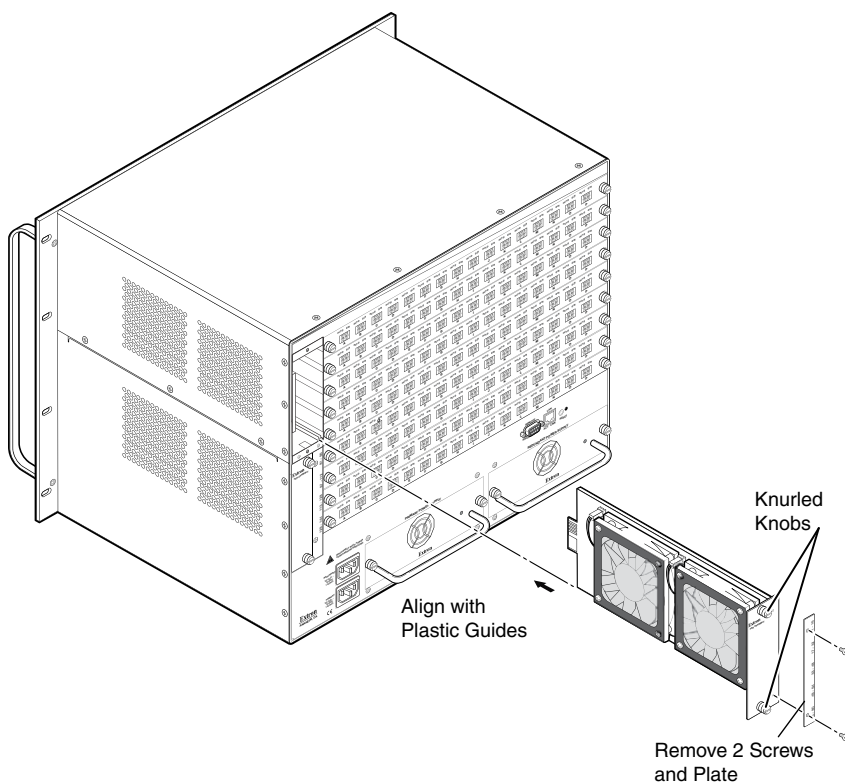

Figure 13. Fan Removal and Installation
6. Align the flanges on the fan with the top and bottom fan guides (see figure 13).